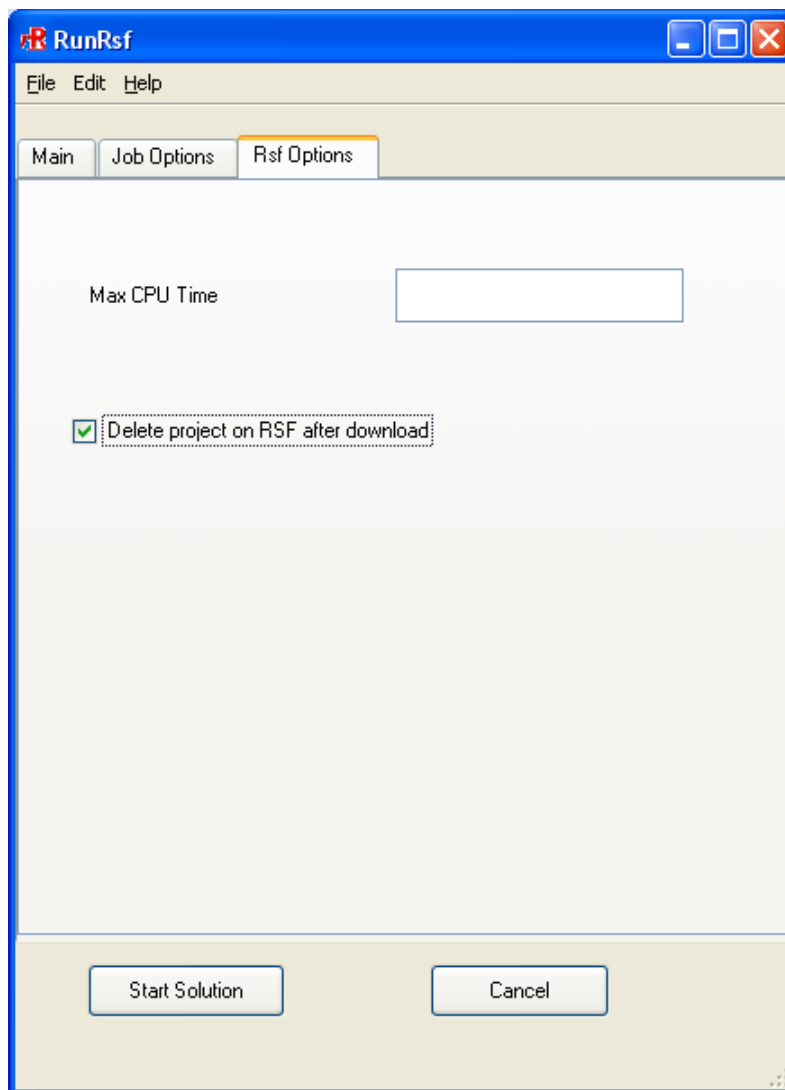

Figure 27.11.25: The Rsf Options Panel
- (e) In the **Rsf Options** tab, you can set the following parameters (Figure 27.11.25).